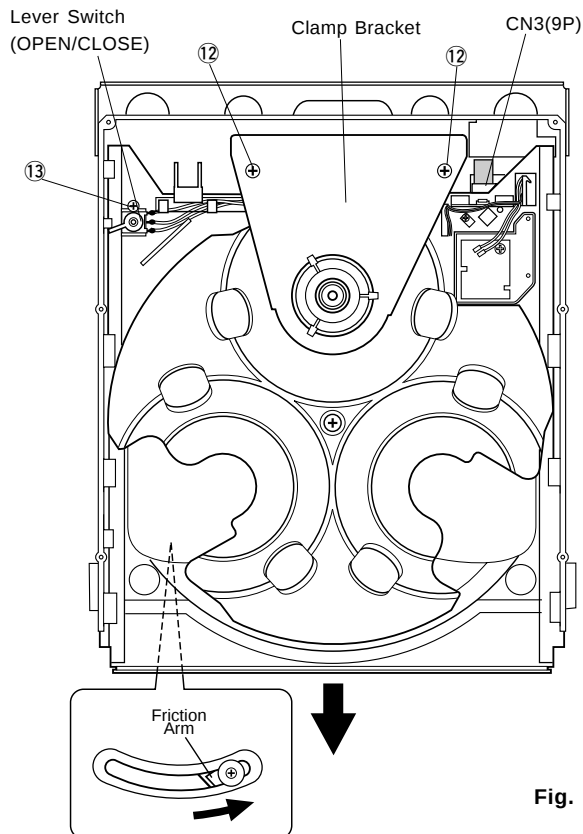

Fig. 10
- Remove 2 screws (12) and then remove the Clamper Bracket in Fig. 10.
- Remove 1 screw (13) and then remove the Lever Switch in Fig. 10.
- Disconnect the Flat Connecting Cable (9P) in Fig. 10.
- Push the Friction Arm (the bottom side of the CD Mechanical Unit) with a screwdriver or the like and pull out the Tray forward as in Fig. 10.